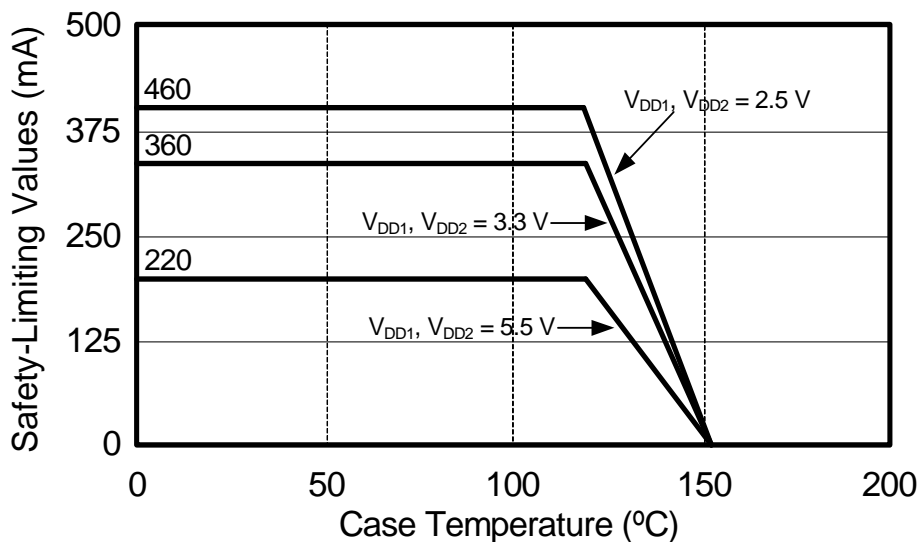

Figure 2. (WB SOIC-16) Thermal Derating Curve, Dependence of Safety Limiting Values with Case Temperature per DIN EN 60747-5-2
1. Maximum value allowed in the event of a failure; also see the thermal derating curve in Figures 2 and 3.